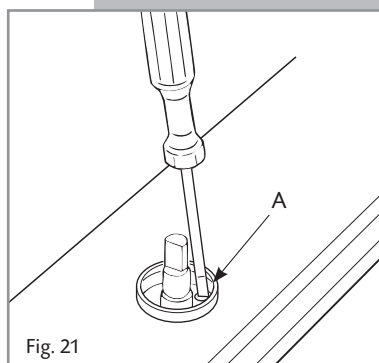

Fig. 21
- Turn the screw "A" to the correct setting with a screwdriver (fig. 21).